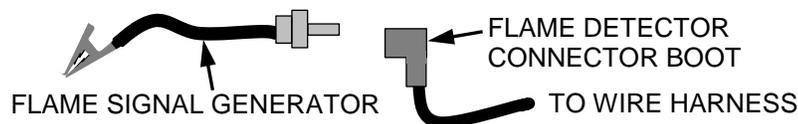

Figure 5-6: Connecting the Flame Signal Generator
- b) Push the **BACK** button three (3) times to return to the upper level menu.
- c) When the C-More Controller gets into the ignition phase, the control panel will show **IGNITION TRIAL**. At that point attach the alligator clip (see Figure 5-6) to any bare metal surface or ground. The C-More Controller should now show **FLAME PROVEN** and begin to ramp up to 100% fire rate. Note that no gas or flame is present in the boiler at this time.